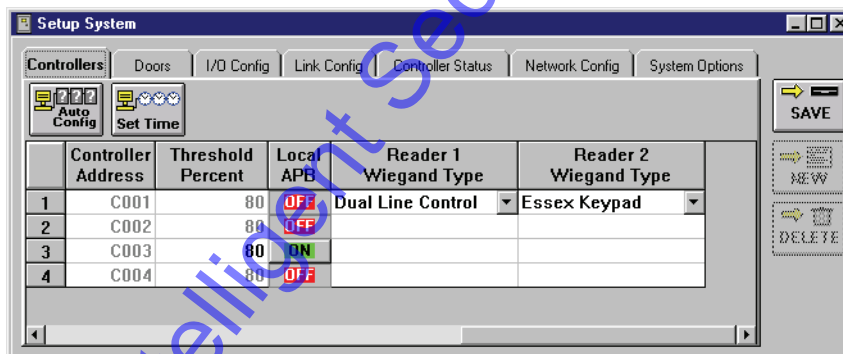

Figure 3-17. Set Wiegand Reader Types
1. To set the Wiegand reader type, click on the Setup ⇒ System pull-down menu or click on the  tool bar button. Then click on the **Controllers** tab. If the “Reader Wiegand Type” columns do not appear in the window, use the scroll bar at the bottom of the window and scroll to the right until the columns appear (see Figure 3-17).
4. If that reader is an Essex Keypad, select that type. If not, the reader must be either Single Line or Dual Line. Review the manual for the Wiegand reader and determine the number of LED control lines used by the device. If one LED control line is used, select Single Line. If two LED control lines are used, select Dual Line. In the following example (see Figure 3-17) reader 1 has been set to Dual Line and reader 2 has been set to Essex Keypad.